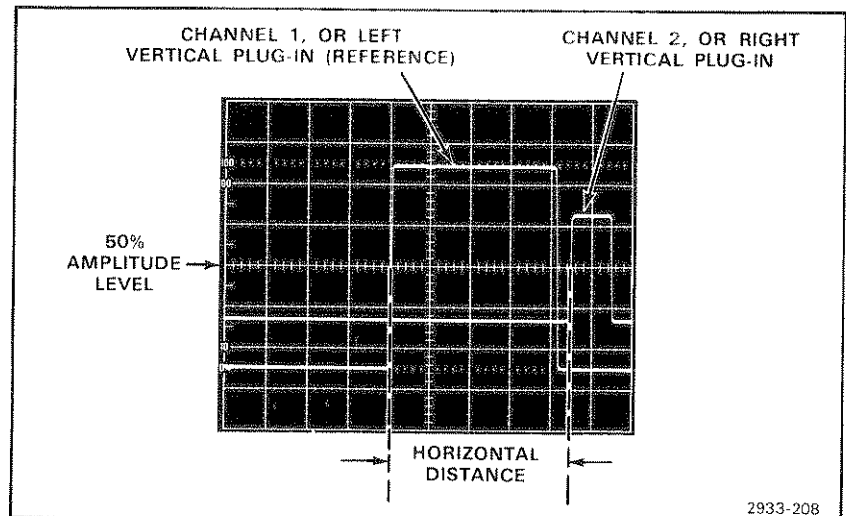

Figure 3-5. Measuring time difference between two pulses.
10. Measure the horizontal distance between the two measurement points (see Fig. 3-5).